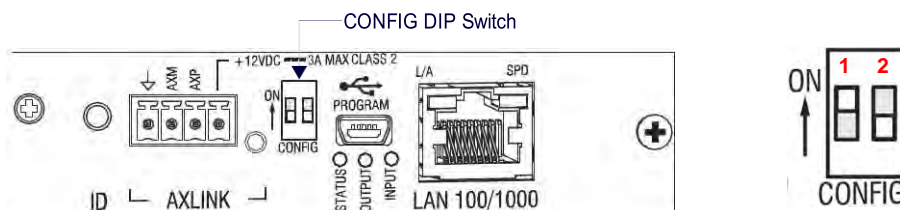

FIG. 30 CONFIG DIP Switch
- Set the Position #1 DIP switch to ON to place the integrated Central Controller into PRD mode (FIG. 30).